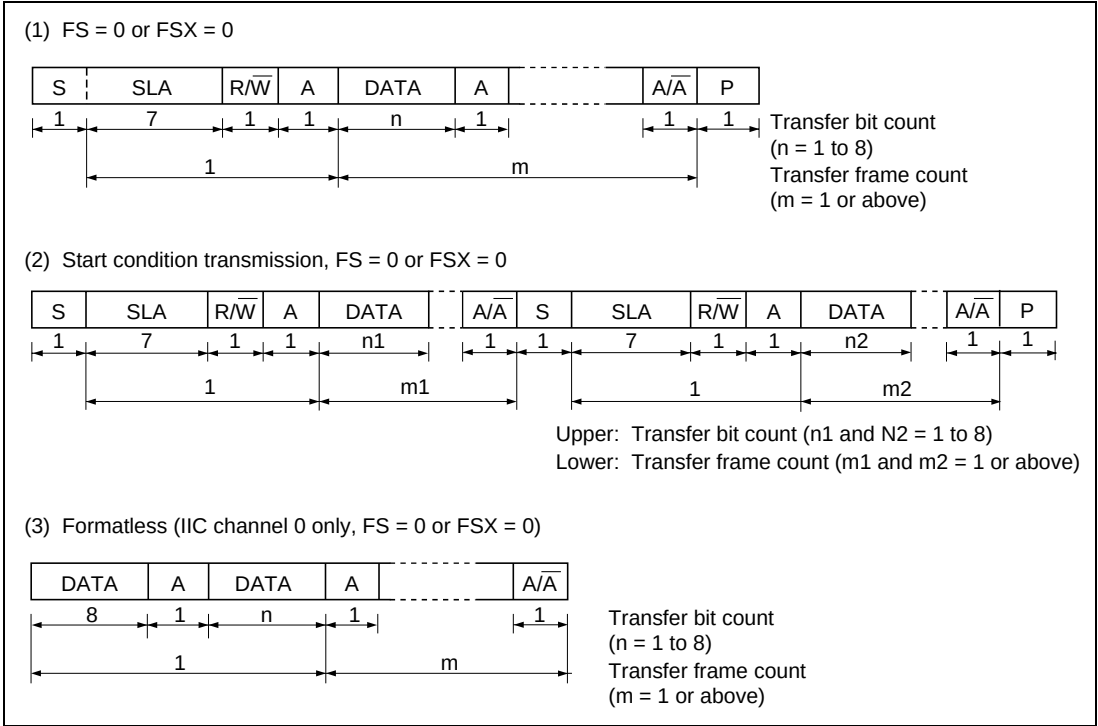

Figure 23.3 I2C Bus Data Formats (I2C Bus Formats)
The I2C bus formats are addressing formats with an acknowledge bit. These are shown in figures 23.3(1) and (2). The first frame following a start condition always consists of 8 bits. Formatless transfer can be selected only for IIC channel 0. The formatless transfer data is shown in figure 23.3 (3).
The symbols used in figures 23.3 to 23.5 are explained in table 23.4.